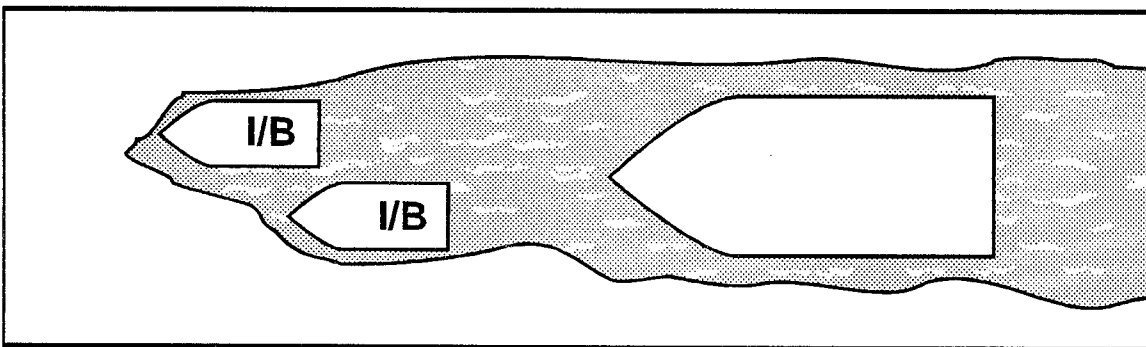

Figure 6-2 Parallel Tracks
4. Ice Dumping. These vessels will also require places to dump ice from the bow at periodic intervals, especially in refrozen brash, or several parallel tracks so ice displaced by the vessel's passage has somewhere to go (See **Figure 6-2.**)